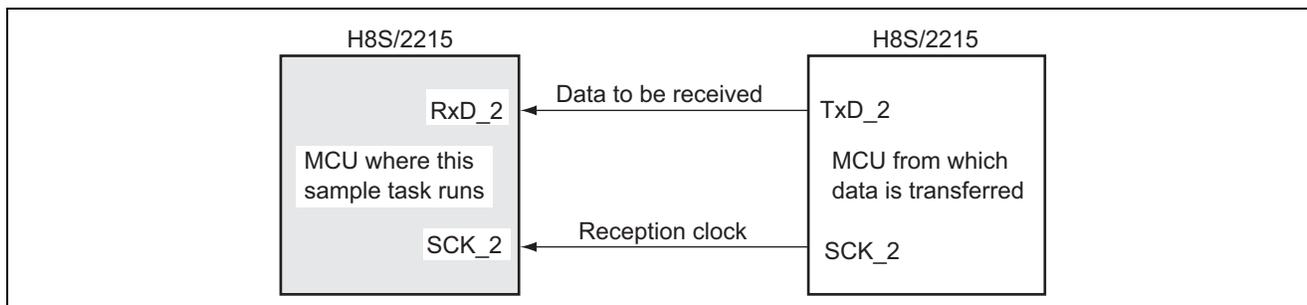

Figure 1 Serial Data Reception in Synchronous Mode
1. Eight characters (bytes) of 8-bit data are received using the serial data transfer function in synchronous mode as shown in figure 1.